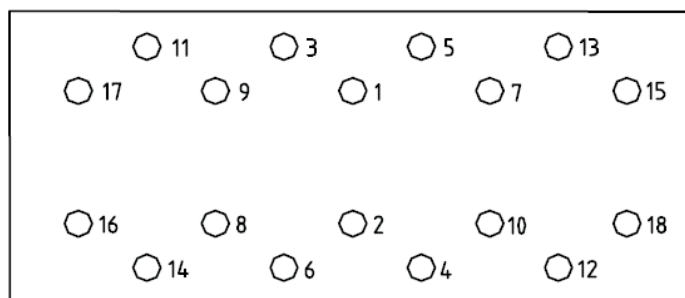

Fig. 4-11 Cylinder head bolts tightening order diagram
(4) The tightening torque of clamp nuts of pressure plates of S-type and P-type injectors should be within the range of $60 \pm 10 \text{ N} \cdot \text{m}$ and the height of tip of injector projecting from the lower surface of cylinder head should be $2.8 \sim 3.2 \text{ mm}$.
(5) Coat the tappet with engine oil on and assemble it into the hole of cylinder, and check that it can slide up and down freely.
(6) Assemble the locating pin and cylinder linear on the upper surface of cylinder and tighten all cylinder head bolts after the alignment of the cylinder head and locating pin of cylinder block. The cylinder head bolts should be tightened from the middle place of cylinder cover according to tightening order (see Fig. 4-11).